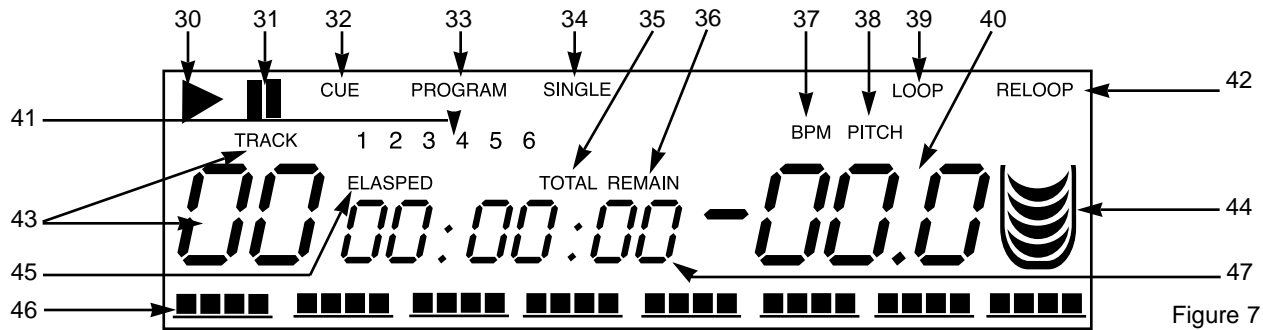

Figure 7
26. (-) PITCH BEND Button - The (-) pitch bend function allows a momentary "Slow Down" in the CD's BPM's (Beats per minute) while it is playing. This will allow you to match the beats between two playing CD's or other playing music source. Remember, that this is a momentary function when you remove your finger from the pitch button the BPM's will automatically return to **SLIDERS (12)** selected pitch. Use this function to catch up to the your other playing music source and use the **PITCH SLIDER (12)** to match the BPM's with the other playing music source. When each of the two CD players are playing, the pitch bend function allows the positioning of the bass beats to be matched, after the pitch of each disc is matched. Either player can "catch up" or "fall back" to match the other player. By changing the pitch of one disc with respect to the other in this way the beats can be matched.
28. (+) PITCH BEND Button - The (+) pitch bend function allows a momentary "BUMP" in the CD's BPM's (Beats per minute) while it is playing. This will allow you to match the beats between two playing CD's or any other playing music source. Remember, that this is a momentary function when you remove your finger from the pitch button the BPM's will automatically return to **SLIDERS (12)** selected pitch. Use this function to catch up to the your other playing music source and use the pitch slider (12) match the BPM's with the other playing music source.
29. Pitch Button - This button will change the pitch percentage the Pitch Slider (12) will react too. The pitch percentage can be changed between 8%, 12%, and 16%. 8% will allow the least amount of pitch manipulation and 16% will allow the most amount of pitch manipulation. The LED above the **Pitch Button** will indicate the function pitch percentage by flashing red for 8% glowing green for 12% and glowing red for 16%.
B. LCD DISPLAY (FIGURE 7)